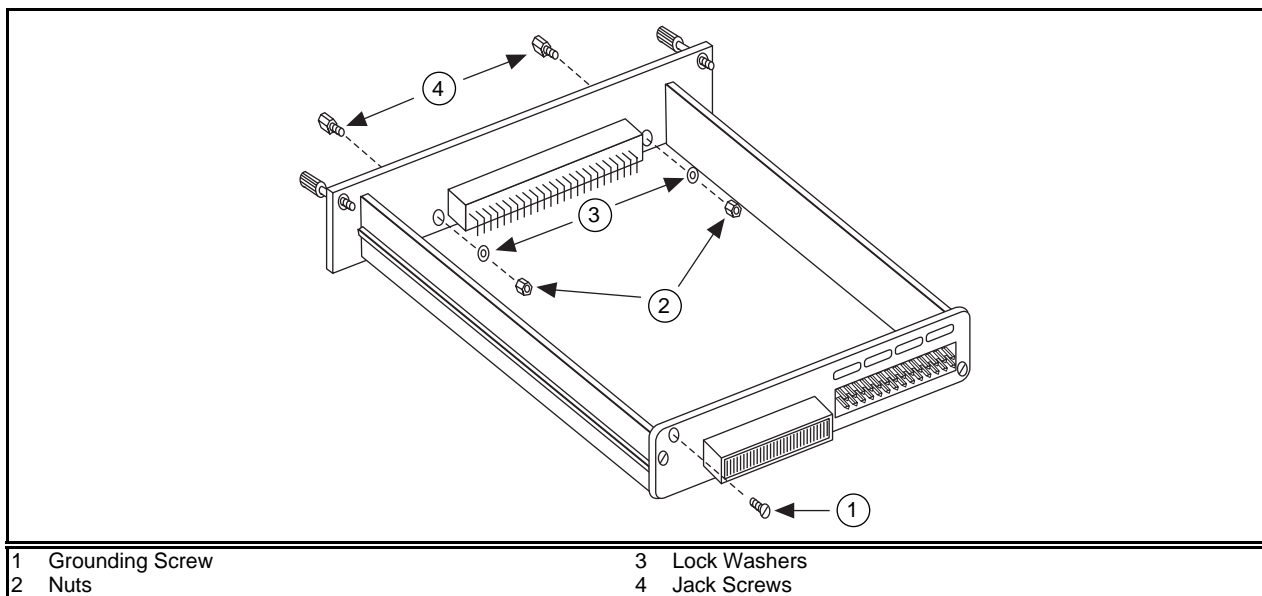

Figure 2. Preparing the SCXI Module for the Cable Assembly
5. Place one jack screw as shown in Figure 2.